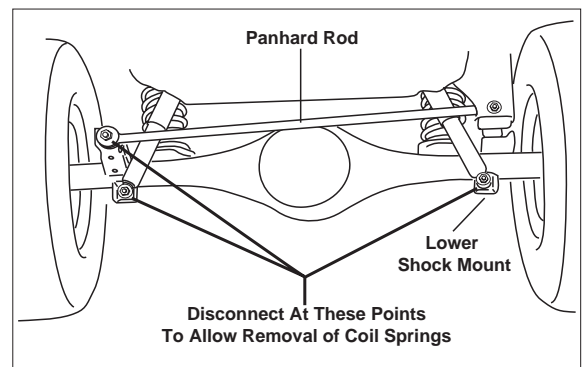

Figure 2
- a. Detach the shock absorbers at the lower shock mount (Figure 2).
- b. Detach the panhard rod at the lower axle mount (Figure 2).
If the vehicle has a rough and harsh ride it may be due to either too much pressure or not enough (fig. 2). Try different pressures to determine the best ride comfort.